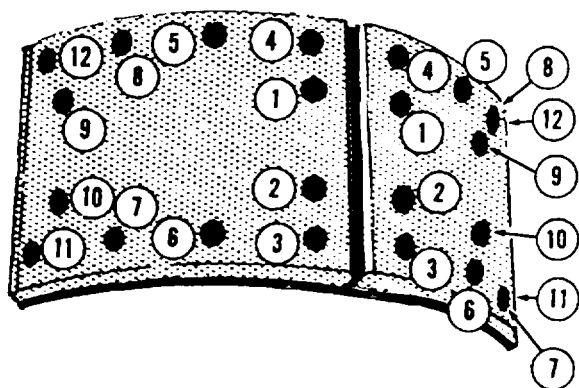

Figure 6-2. Brake Lining Riveting Sequence
(1) Make sure lining and shoe contact surfaces are clean.
(2) Clamp lining to brake shoe with C-clamps with rivet holes in both pieces aligned.
(3) Drive the rivets squarely into the holes with a 7/16-inch flat head drift.
(4) Position the C-clamps as close to the rivet holes as possible and make certain the lining is tight against the brake shoe.
(5) Working from heel to toe of brake shoe, form the rivet heads with the correct tubular rivet set. Follow the order shown in figure 6-2.
(6) Check lining installation with a 0.002-inch feeler gage to ensure that lining and shoe contact. Lining to shoe clearance is excessive if gage can be inserted between shoe and lining.